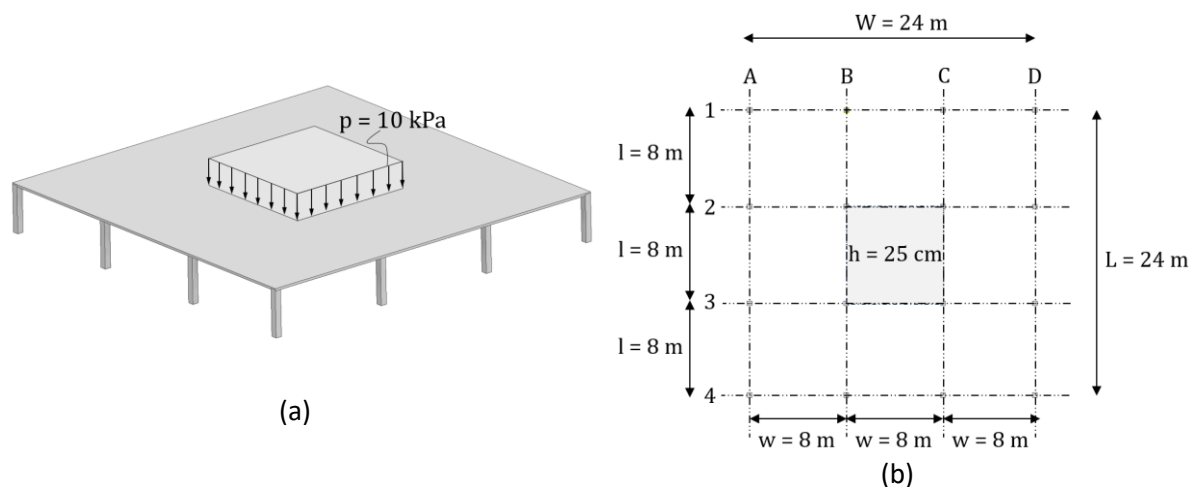

Figure 1 – A rooftop supported by 16 columns and exposed to a uniform load $p = 10 \text{ kPa}$ between axes B, C, 2, and 3.
The rooftop with dimensions and the uniform loading is shown in Figure 1.
- Sketch the geometry in Figure 1. We will use mm as measurements. Use **Create Lines: Rectangle (4 lines)** tool () and create the rectangle representing the area of the rooftop of by specifying the starting points as (-12000,-12000) and the endpoint as (12000,12000).